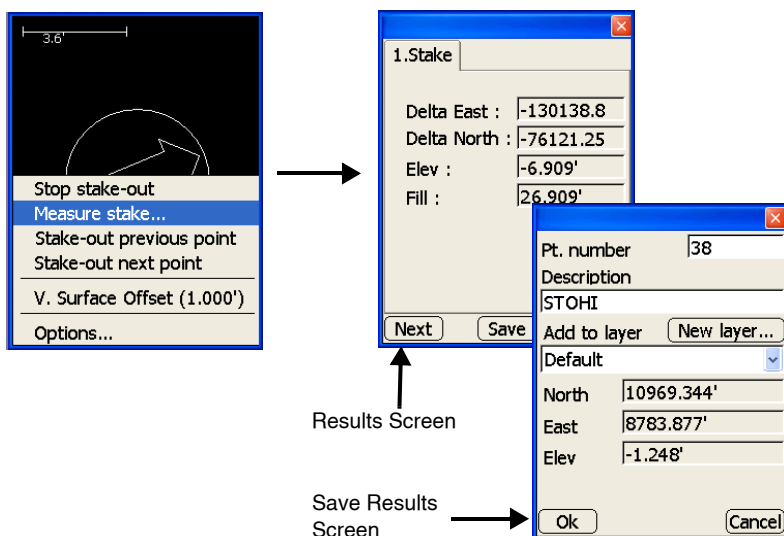

Figure 7-9. Measure Point and Stakeout Results
4. Press **Save** to display the *save results* screen and enter the point number/description and layer/new layer information for the staked out point (Figure 7-9 on page 7-8).
5. Press **Ok** to return to the *results* screen (Figure 7-9 on page 7-8).